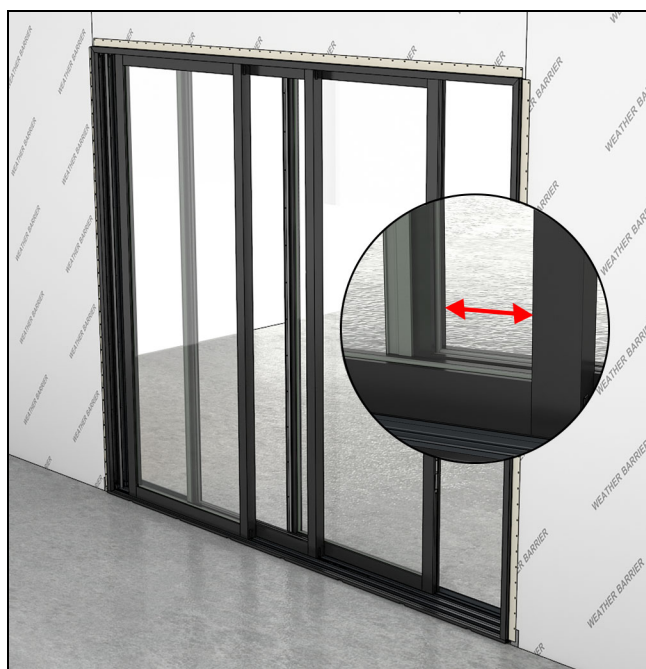

Figure 144
7. With the primary panel open slightly, move the secondary panel until you can see daylight through the glass between the stiles. Check for an even reveal and adjust the rollers on the secondary panel. Repeat as necessary for every secondary panel. See Figure 144.